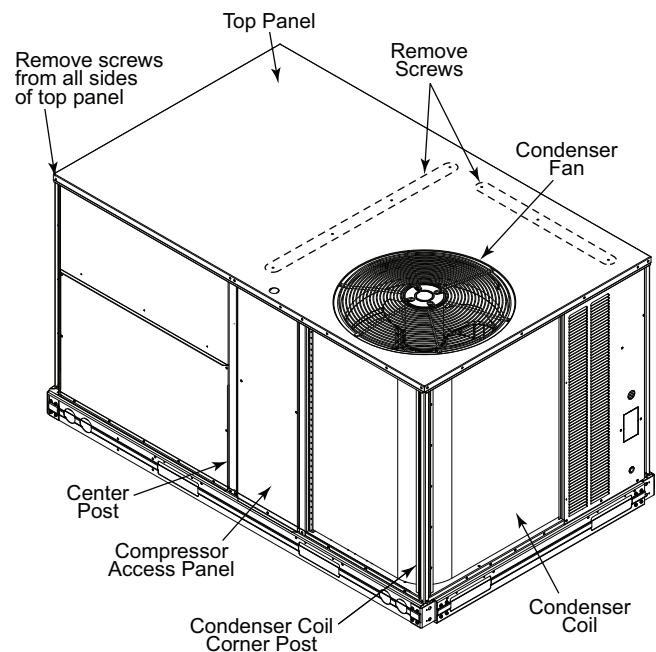
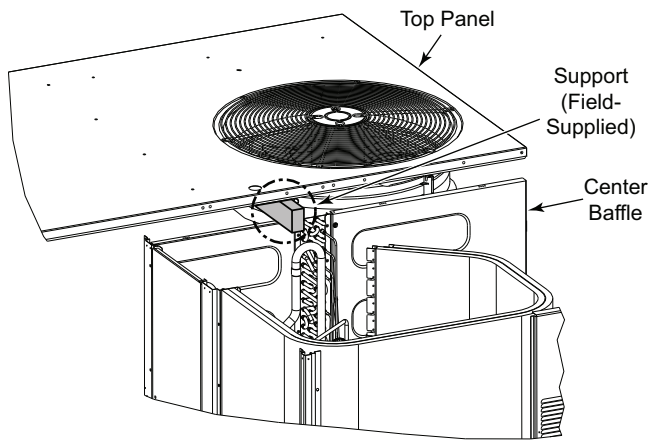

Fig. 18 — Location of Screws and Coil Corner Post
Fig. 19 — Propping Up Top Panel
2. Remove all screws from the top panel except the screws securing the condenser fan to the top panel. See Fig. 18.
3. Remove condenser coil corner post. See Fig. 18. To hold top panel open, place coil corner post between top panel and center post. See Fig. 19.